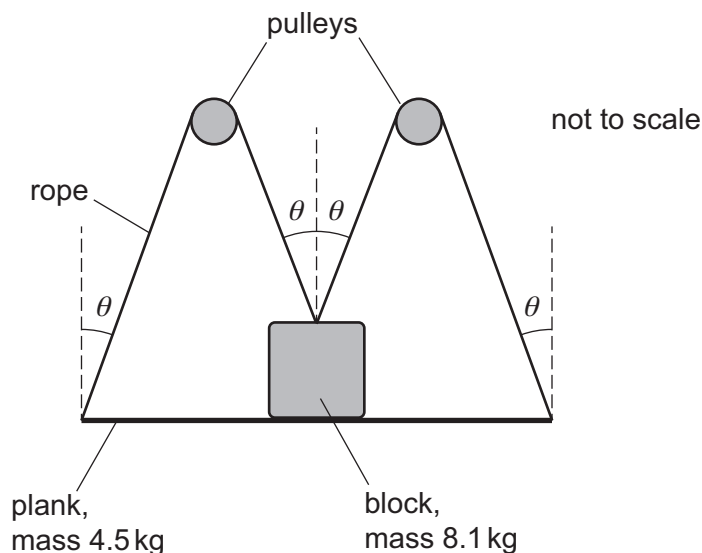

Figure 2.1
- (b) A block rests in equilibrium on the centre of a uniform horizontal plank. The block is attached to two ropes, each of which passes over a fixed pulley and then attaches to an end of the plank as shown in Figure 2.1.